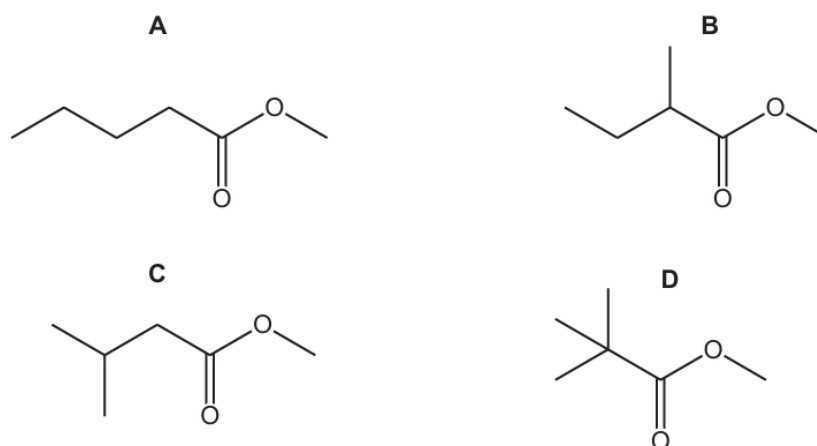

Fig. 7.1
- 1 Four esters, **A**, **B**, **C** and **D**, with the molecular formula $C_6H_{12}O_2$ are shown in Fig. 7.1.